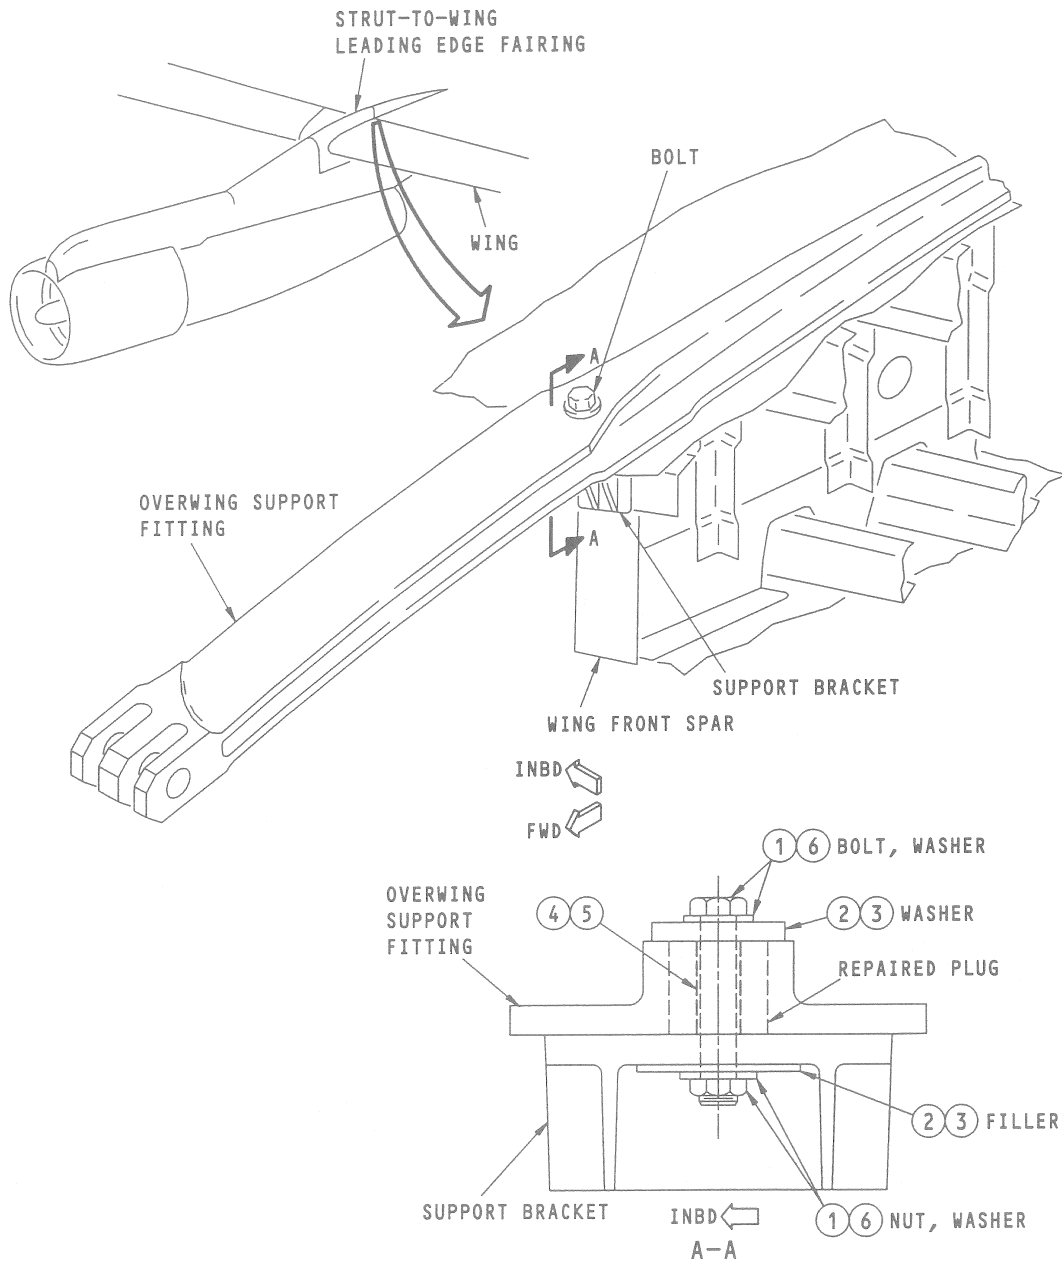

FIGURE 2 OVERWING SUPPORT FITTING BOLT REPLACEMENT
b. Determine if the bolts FWD of the wing front spar on nacelle strut overwing support fitting are BACB30US. (bacb30us8 for out side & bacb30us7 for inb side). If the bolts are BACB30US, no further action. If the bolts are not BACB30US, replace the bolts I.A.W. SB3502 Fig 2 instructions.
**SB3502 FIG 2**